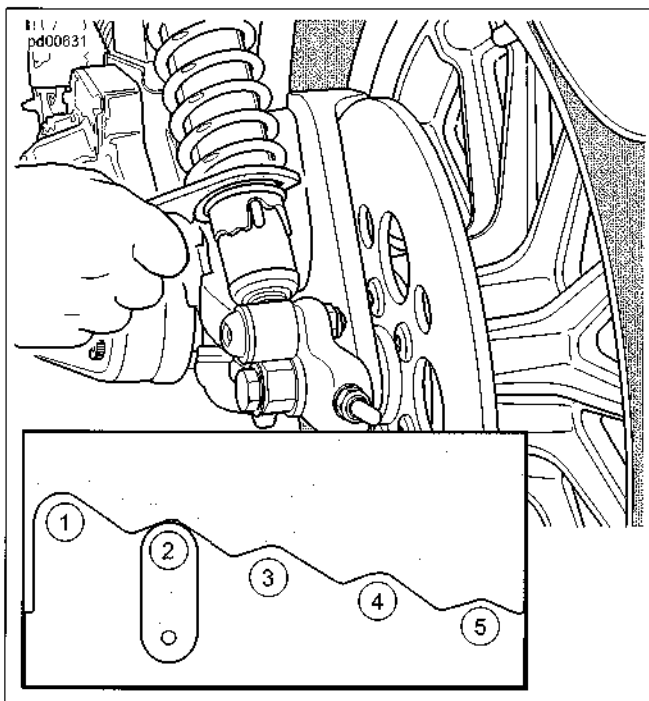

Figure 1-52. Shock Absorber Preload Adjustment
- **Five position shocks:** See Figure 1-52. Do not turn the preload cam past position five (5) to position one (1) or from position one (1) to position five (5).